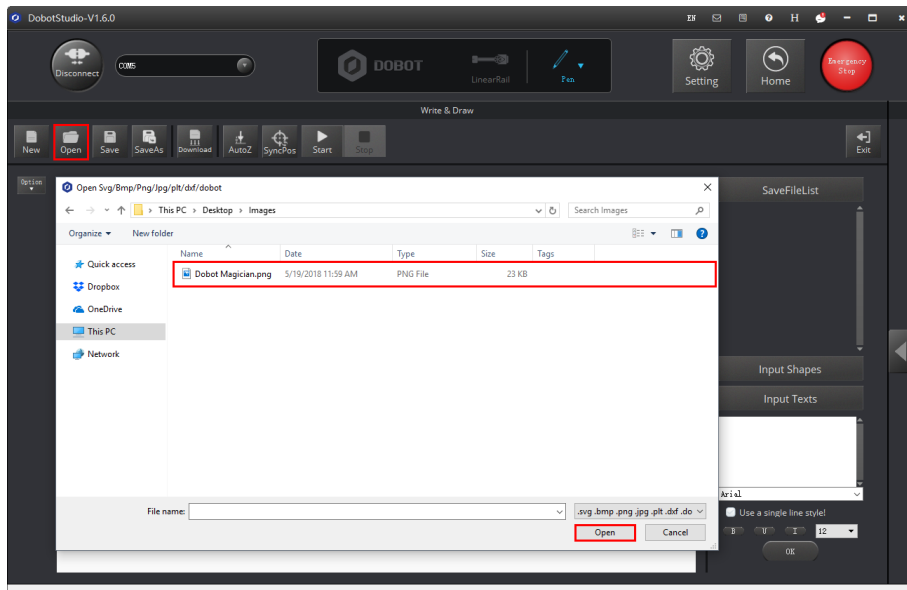
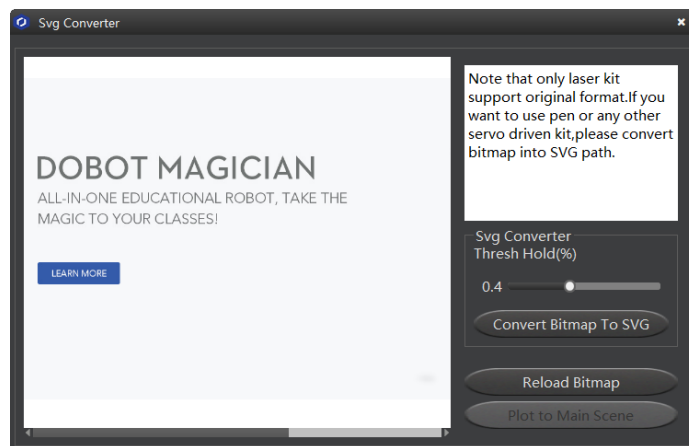

Figure 5.73 Import an image file
Figure 5.74 Convert Bitmap to SVG
- Click **Open** to import an image file such as BMP, JPEG, or PNG to convert this image to its corresponding SVG file that the DobotStudio supports, as shown in Figure 5.73. Once this image is imported, the **SVG Converter** dialog box is displayed, as shown in Figure 5.74. In this dialog box, drag the slider to set the black and white threshold, and click **Convert Bitmap To SVG** to perform the conversion, and then click **Plot to Main Scene**